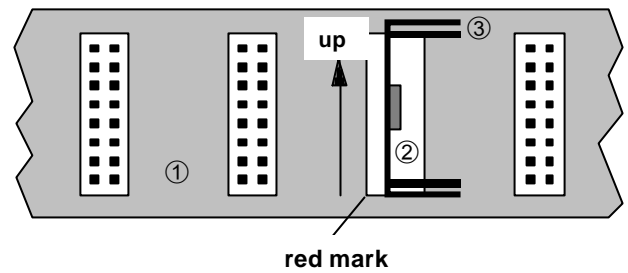

Fig. 11: Connecting the 5V low-cost adaptor (1: system bus board, 2: AD5, 3: heat sink)
The AD5 adaptor can be connected to any available 16-way socket on the system bus board (see Fig. 11). This will feed +5V to modules on that bus, as long as their current requirements don't exceed 100mA.
- A Make sure that the AD5 is the right way up, and aligned correctly with the bus socket. The correct position is shown on a sticker (with the **arrow pointing upwards**, and the **red mark at the bottom** - see Fig. 11).